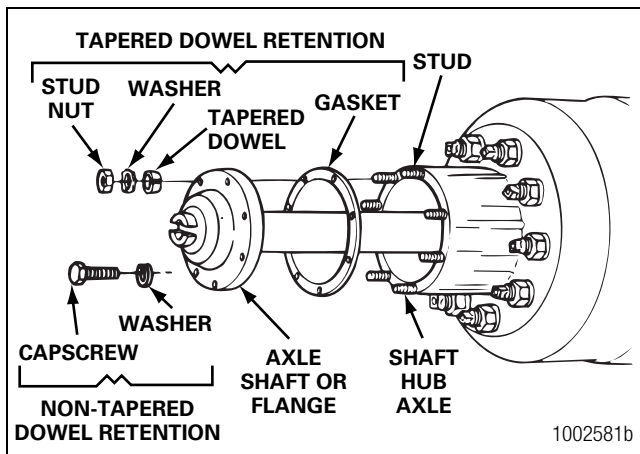

Figure 5.119
3. Install the gaskets and axle shafts into the axle housing and carrier. The gasket and flange of the axle shafts must fit flat against the wheel hub. Figure 5.119.
4. If the wheel hubs have tapered hole studs, install solid tapered dowels onto each stud and onto the flange of the axle shaft. Figure 5.119.
5. If the wheel hubs have straight hole studs, install the nuts and washers onto the studs. Figure 5.119. Tighten the nuts to the correct torque value. Refer to Section 8.
10. Install the gasket and axle shaft into the housing. The gasket and flange of the axle shaft must fit flat against the wheel hub. Figure 5.119.
- Install the gaskets and axle shafts into the axle housing and carrier. The gasket and flange of the axle shafts must fit flat against the wheel hub. Figure 5.119.
- If the wheel hubs have tapered hole studs, install solid tapered dowels onto each stud and onto the flange of the axle shaft. Figure 5.119.
- Install the gasket and axle shaft into the housing. The gasket and flange of the axle shaft must fit flat against the wheel hub. Figure 5.119.
2. If the drive axles are equipped with a main differential lock, shift the differential to the unlocked or disengaged position. Install the axle shafts with two sets of splines and new gaskets in the correct location as follows. Figure 5.119.